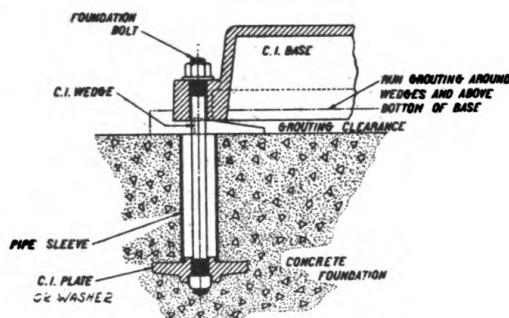

Figure 13—Foundation
b. **Foundation.**—It is of paramount importance that the unit be placed on good foundation, preferably concrete. Foundation bolts should be placed according to the method shown in figure 13. Pipe sleeves should be about two and one-half diameters larger than the size of the anchor bolts being used.
- a. The necessary starting mechanism will be found on the pump end of the unit immediately above the flexible coupling. (Figure 13.) To start the engine turn ignition switch to the left and push in starter push rod button. This operation turns the starting motor, engaging starting mechanism. Use the same principle in starting the engine on this unit as you would employ in starting your own automobile. Do not hold starter push rod button down and grind the starting motor for a long period of time. This not only runs the battery down but if the engine fails to start it would indicate that something is wrong.